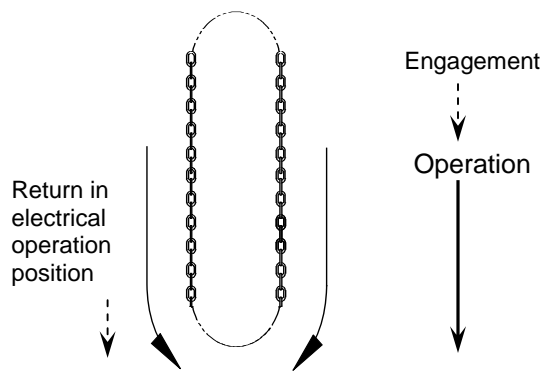

Figure 18 Operating chain to open and close door
2. Continue the traction movement to move the door. If it doesn't run in the desired direction, repeat actions 1 and 2 by pulling the chain in the other direction (See Figure 18).